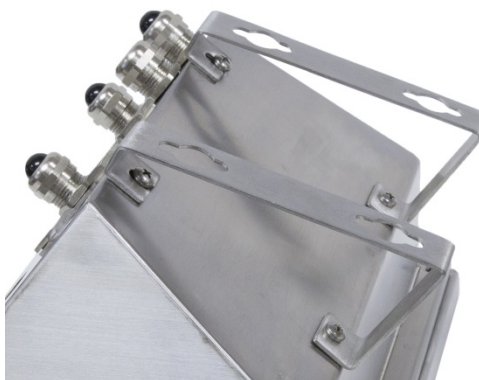

Figure A-12: Attaching the Wall-Mounting Brackets
1. Bolt the two brackets to the bottom of the enclosure using the four M5 screws included with the terminal. The brackets should be attached as shown in Figure A-12.